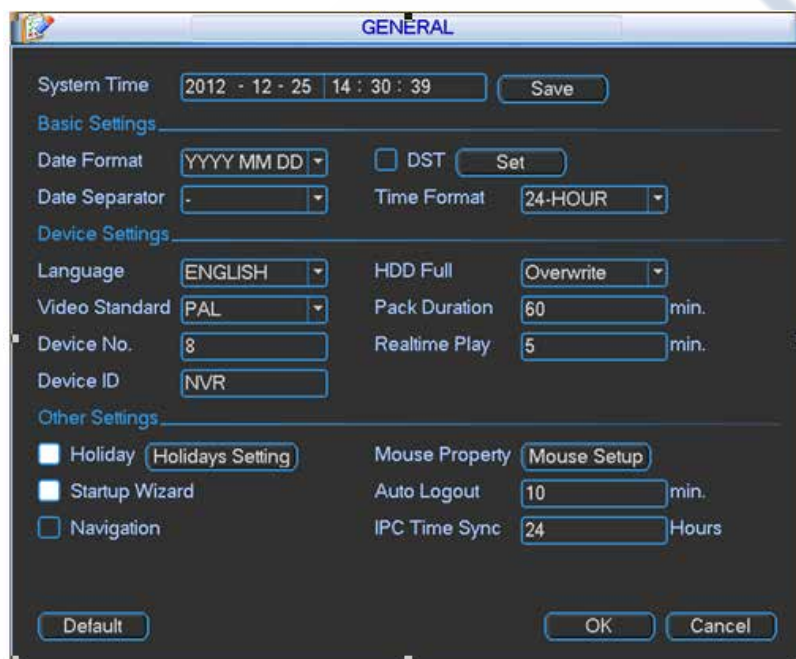

Figure 5-42
- a) From Mani menu->Setting->General, you can go to the following interface. See Figure 5-42.